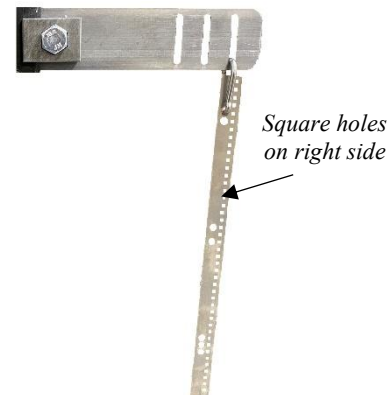

Figure 3: Top Rail Fastening Plate with Carabiner and Tape
- c. Ensure the tape is correctly oriented with the square holes on the right side of the tape. See Figure 3